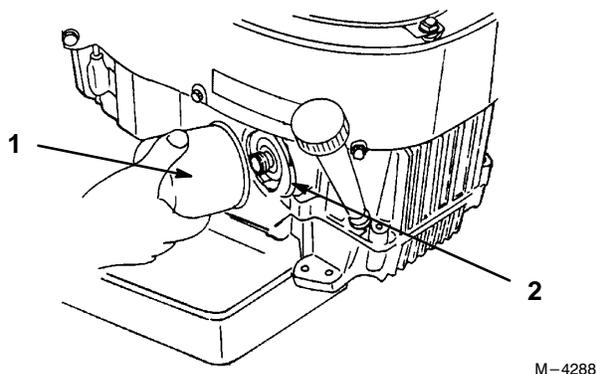

Figure 34
2. Remove the old filter (Fig. 34).
3. Apply a thin coat of new oil to the rubber gasket on the replacement filter (Fig. 34).
4. Install the replacement oil filter to the adapter. Turn the oil filter clockwise until the rubber gasket contacts the filter adapter, then tighten the filter an additional 3/4 turn (Fig. 34).